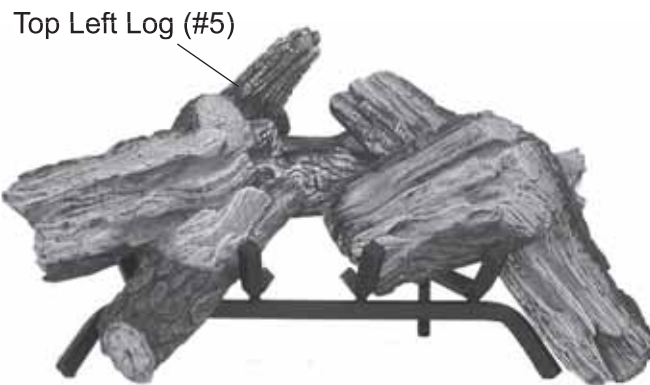

Figure 128 - Placing Top Left Log (#5) behind Rear Log
6. Place Top Left Log #5 behind Rear Log #1 on the notch on rear left of grate stand. *See Figure 128.*